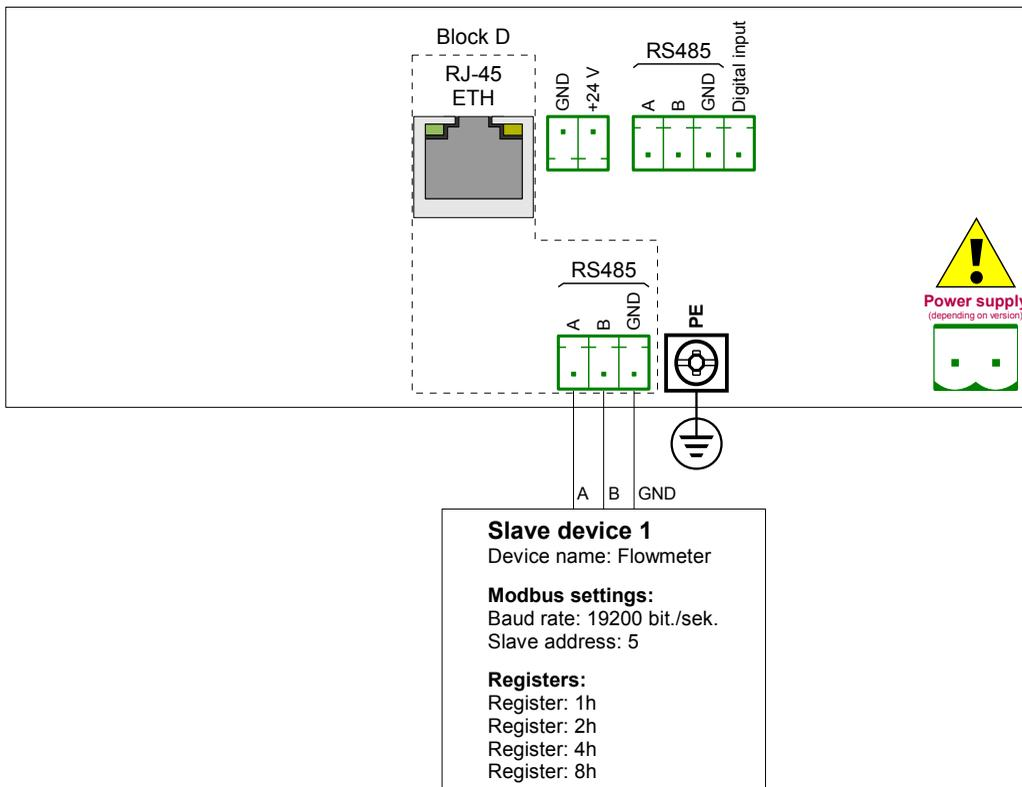

Fig. 7.129. Connection diagram for the Modbus MB2 port
First we need to configure the device according to the following recommendations, then connect the device in according with **Fig. 7.129.**
- using the arrows in the upper right corner choose **Port number: 1 (MB1)** in accordance with **Fig. 7.129**),